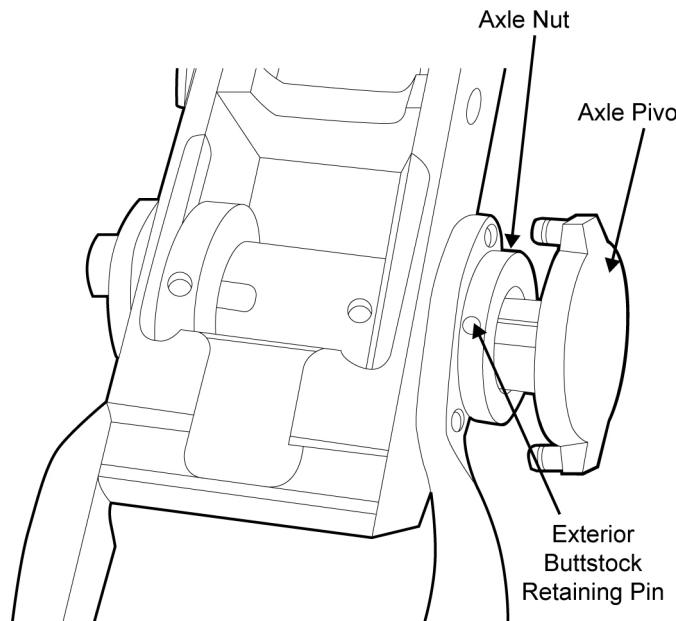

Figure 32. Removing the Exterior Buttstock Retaining Pin, Axe Pivot, and the Axe Nut.
e. Pull the axle pivot out of the receiver only far enough to see the axle nut located against the right buttstock arm. Use a punch to push the exterior buttstock retaining pin out of the axle nut. Remove the buttstock retaining pin (which may be staked), remove the axle pivot, and unscrew the axle nut from the buttstock axle. Remove the axle pivot. Refer to Figure 32.